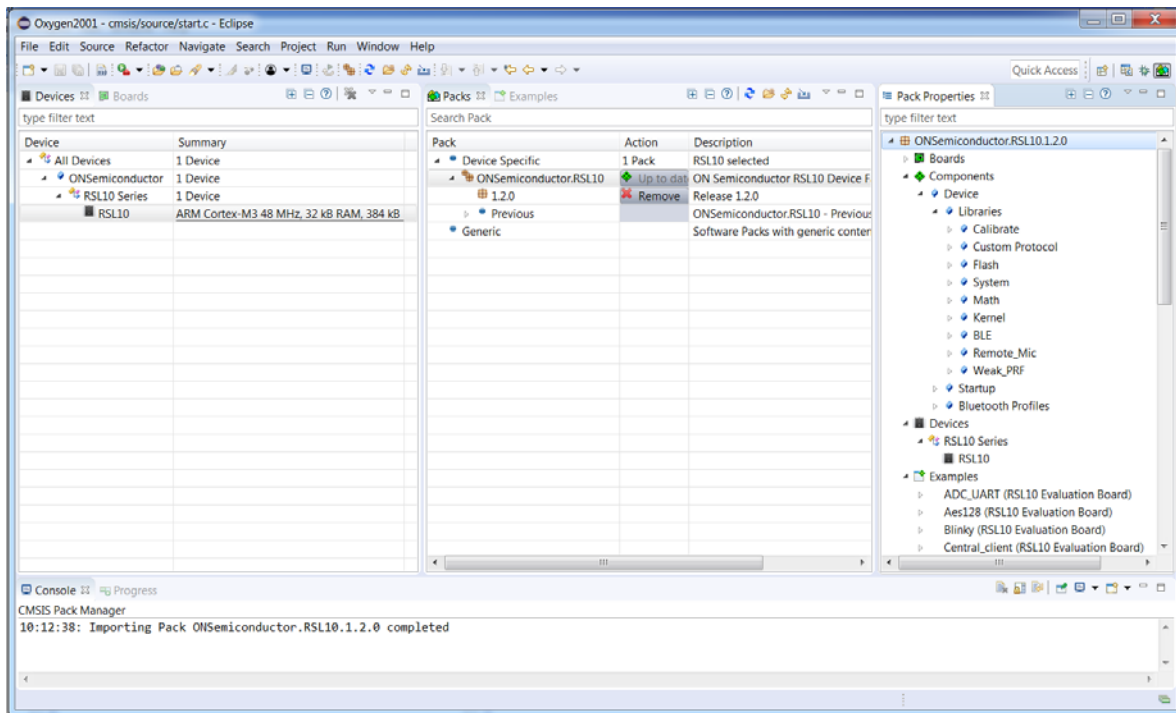

Figure 5. Pack Manager Perspective after RSL10 CMSIS-Pack is Installed
6. The RSL10 CMSIS-Pack now appears in the list of installed packs. In the **Devices** tab, if you expand **All Devices > ONSemiconductor > RSL10 Series** you can see RSL10 listed there. You can manage your installed packs in the **Packs** tab. Expanding *ONSemiconductor.RSL10* makes the **Pack Properties** tab display the details of the RSL10 CMSIS-Pack. Figure 5 on page 9 illustrates what the Pack Manager perspective looks like after installation.